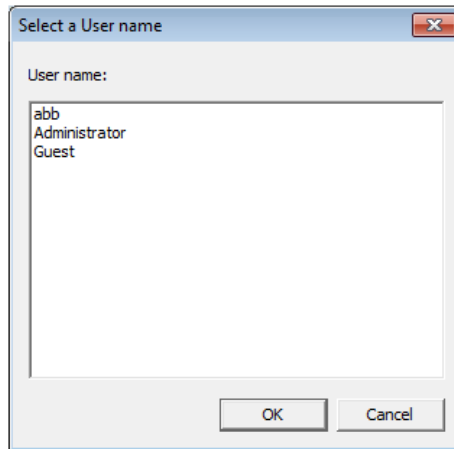

Figure 58. Select a User Name Dialog Box
- k. A Select a User Name dialog box similar to the one shown in Figure 58 appears. Select the Service User.